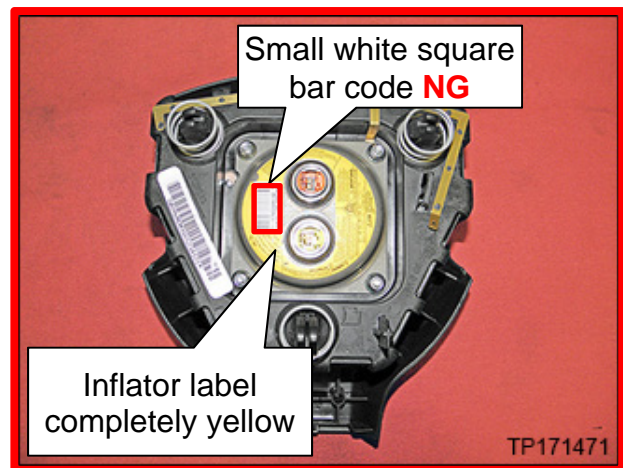

Figure 3
- If the inflator label is completely yellow, with a small white square bar code as shown in Figure 3, continue to step 8 on page 6 for Driver Air Bag inflator replacement.